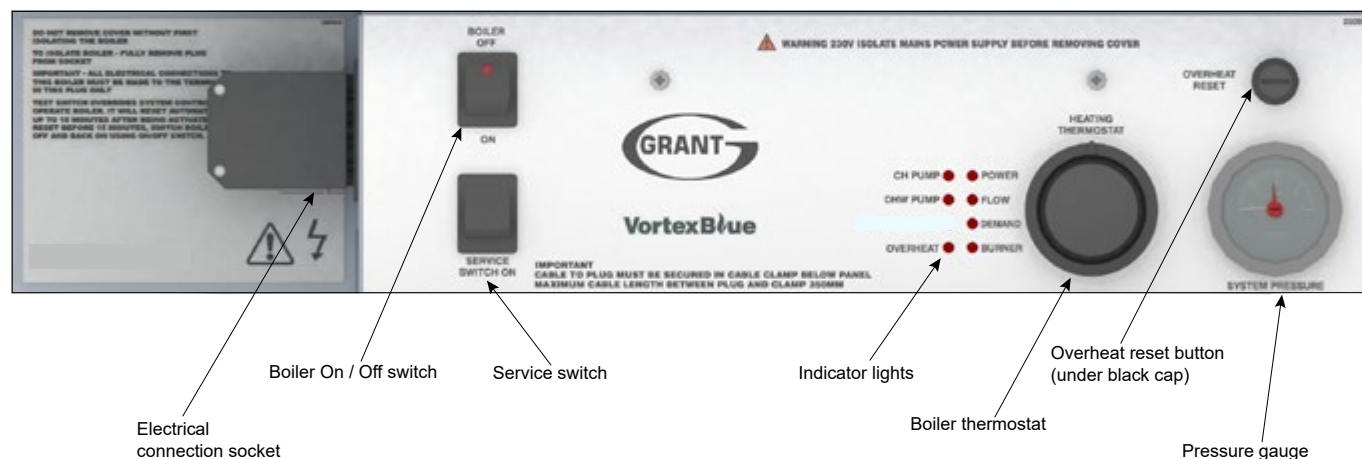
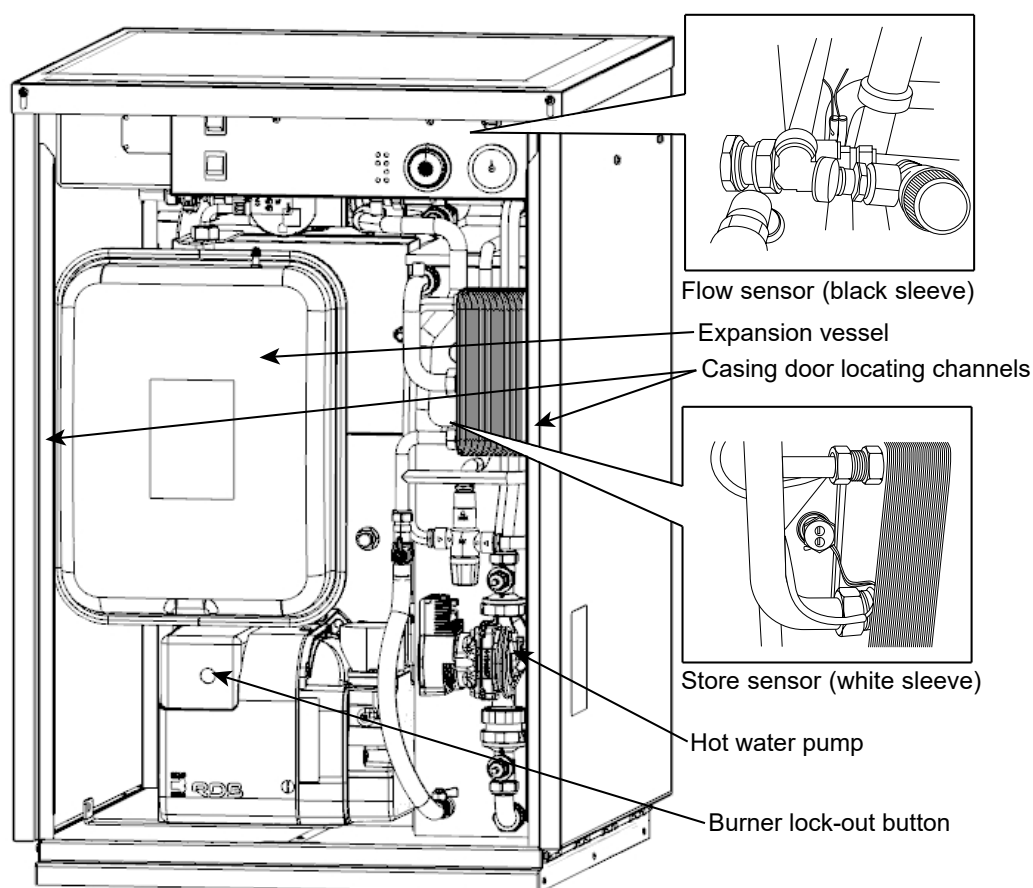

Figure 10-1: VortexBlue External Combi boiler control panel
Figure 10-2: Position of boiler components - VortexBlue External Combi
The controls are shown in Figure 10-1 and other components are shown in Figure 10-2.
3. Remove the four screws retaining the top casing panel and remove the top casing panel, then check that the high limit thermostat bulb and boiler thermostat bulb are correctly located in their respective pockets. Refer to Figure 5-1. Ensure the store sensor is correctly located in its pocket. Refer to Figure 10-2. Check condition of all thermostat capillaries. Ensure they are not damaged, broken, kinked or crushed.